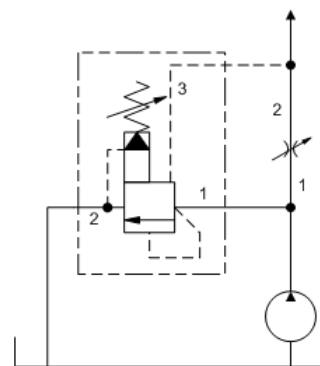

Figure 3. *This drawing is not a real circuit and is intended for description only.*
- Port 3 is connected to the outlet, or load side, of the orifice, and port 1 is connected to the inlet side (See Figure 3).